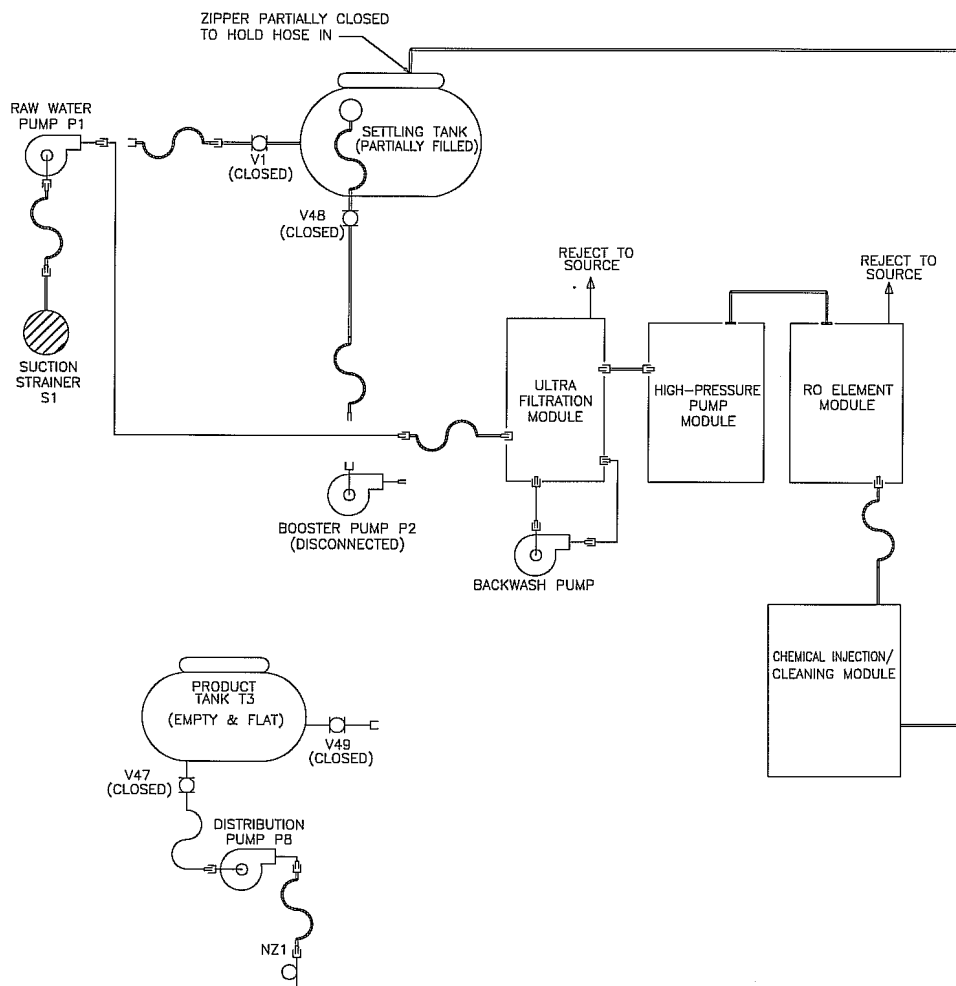

Figure 1. Layout for the First Pass.
1. The procedure begins after the LWP has been shutdown and de-energized, the settling and product water tanks drained, and the LWP configured in the normal operating mode. The settling tank must be located close enough to the RO module so that it can be filled with product water. Refer to Figure 1 as a guide in performing the procedures for setup and operation of the first pass. (NOTE: If the system has already been operated in double pass mode, it will be necessary to disconnect and cap the NBC canisters from the product hoses between the RO module and chemical injection/cleaning module.)